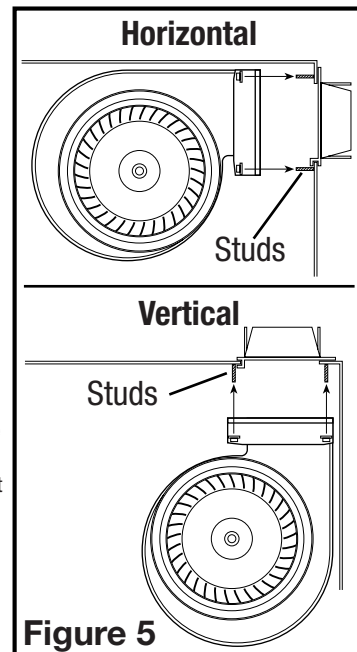

Figure 5
- With the opening of the blower facing the direction you have chosen to duct the hood, place the blower mounting brackets (brackets on either side of the blower) over the blower mounting studs on the interior of the hood (**Figure 5**).
- Using the 4 nuts removed earlier, secure the blower in place. Start the nuts by hand first, then tighten with a 3/8" nut driver or ratchet until they are fully seated (**Figure 5**).